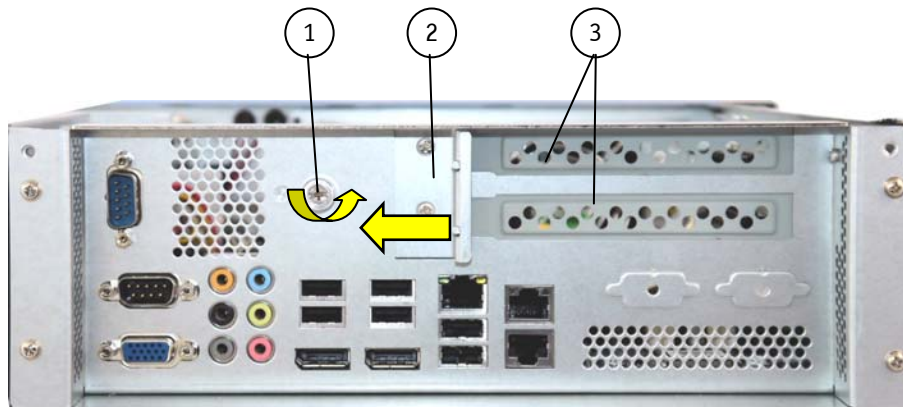

Fig. 31: Detail rear side of KISS 2U Short V2 with KTQ67/Flex (system configuration with PCIe riser card)
2. Loosen (turn 1/2 to the left) the fastening screws (Fig. 31, pos. 1) to unlock the slide bracket (Fig. 31, pos. 2). The slide bracket is used to secure in place the slot bracket or the card slot bracket.
7. Secure the slide bracket position with the fastening screws (Fig. 31, pos. 1)